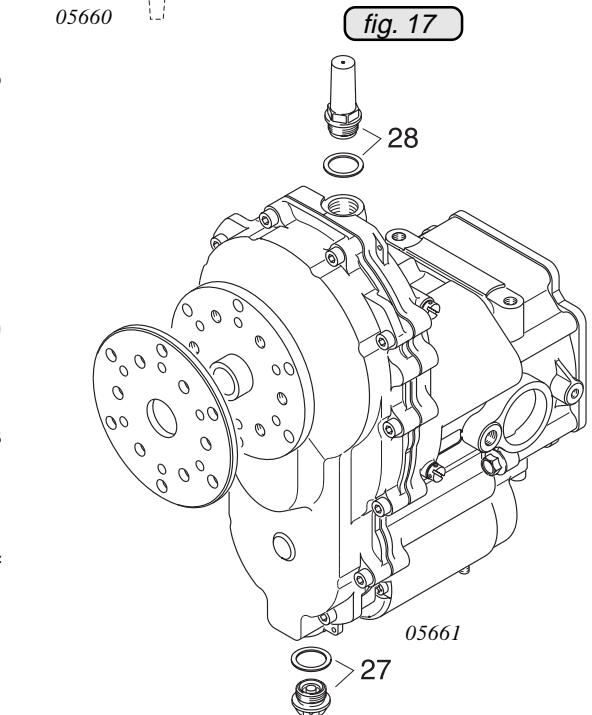

fig. 17
According to position of gear box, fit magnetic plug and sealing ring (27) (tightening torque 24 Nm = 212 in.lb.) and vent screw with sealing ring (28) (tightening torque 6 Nm = 53 in.lb.) (see fig. 17).